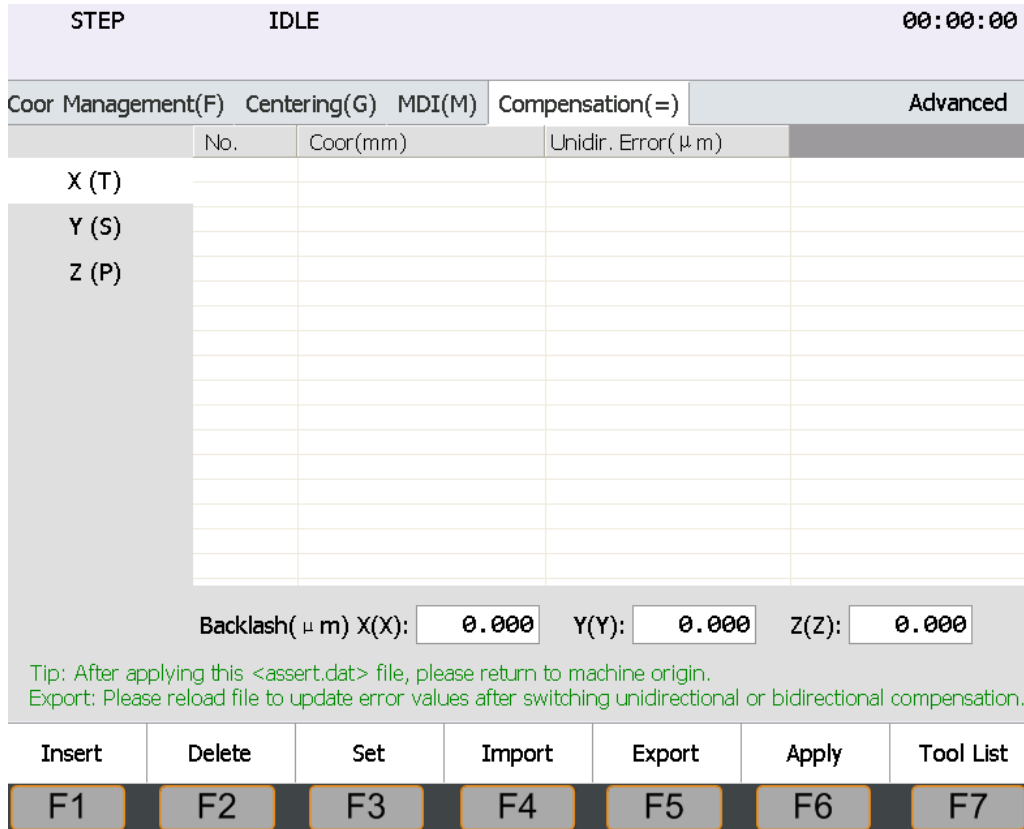

Figure 3-21 Lead screw error compensation – single direction compensation
1. <Advanced> → <= Compensation> → <F7 Screw Comp.> (open the interface shown in figure 3-21).